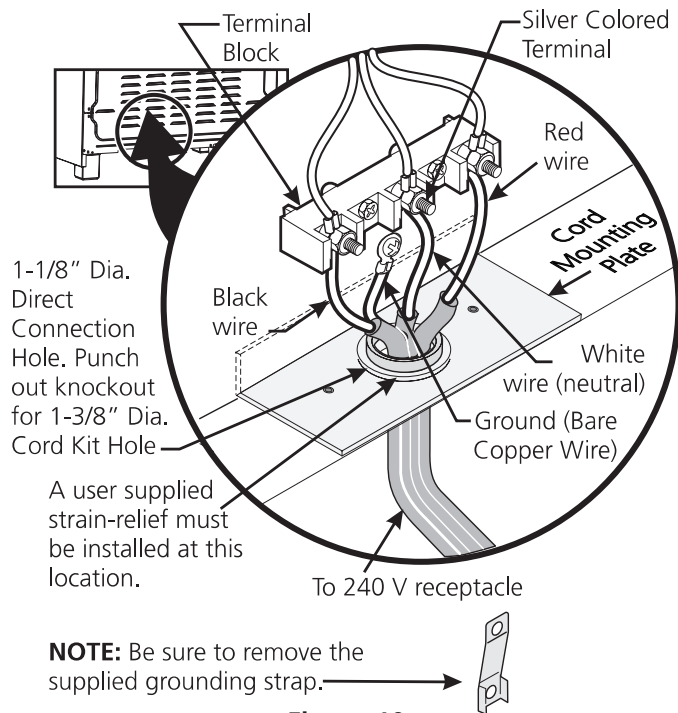

Figure 10
* For mobile homes, new installations, recreational vehicles, or areas where local codes do not permit grounding through neutral, a 4 conductor power supply cord kit rated at 125/250 volts and marked for use with ranges should be used (see Figure 10).
4. Connect the ground wire (green) of the power supply cord to the frame of the appliance with the ground screw, using the hole in the frame where the ground strap was removed (see Figure 10).
6. Replace the 3 nuts on the terminal block (see Figure 10).
If the appliance is connected directly to the circuit breaker, fuse box or junction box, use flexible, armored or non metallic sheathed copper cable (with grounding wire). Supply a U.L. listed strain-relief at each end of the cable. At the appliance end, the cable goes through the Direct Connection Hole (see Figure 10) on the Cord Mounting Plate. Wire sizes (**copper wire only**) and connections must conform to the rating of the appliance.